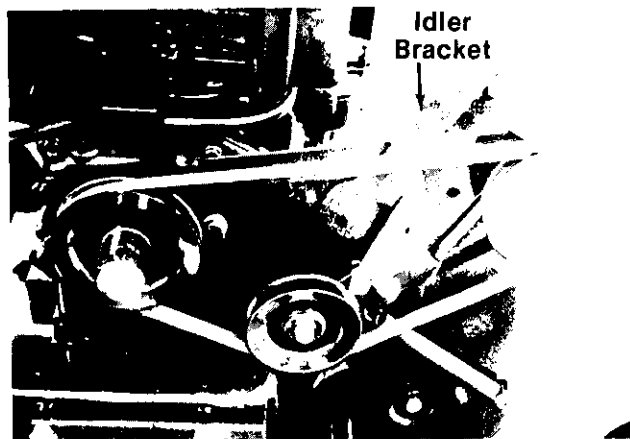

FIGURE 22.
4. Move the idler bracket forward (disengaged position) to remove the belt tension. Lift the belt off the engine pulley and chain case pulley. See figures 22 and 23.